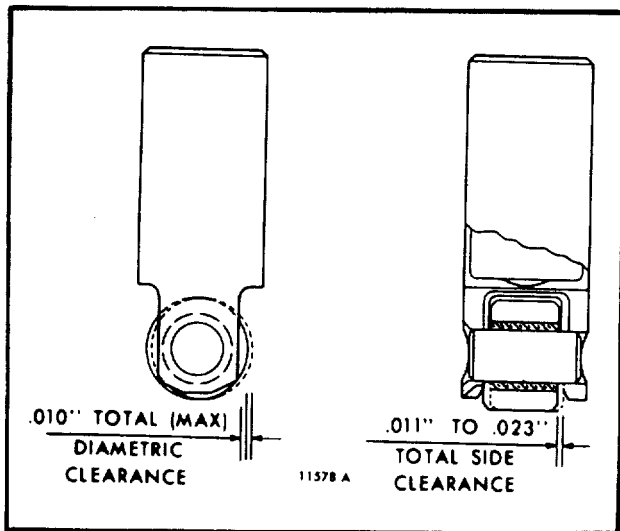

Fig. 5. Cam Roller Clearances
Examine the cam follower rollers for scoring, pitting or flat spots. The rollers must turn freely on their pins. Measure the total diametric clearance and side clearance. Install a new roller and pin if the clearances exceed those specified in Fig. 5. Cam followers stamped with the letter "S" on the pin, roller and follower body are equipped with an oversize pin and roller. The same clearances apply to either a standard or oversize cam follower assembly.
7. Remove the cam follower from the fixture and check the side clearance (Fig. 5). The clearance must be .011" to .023".